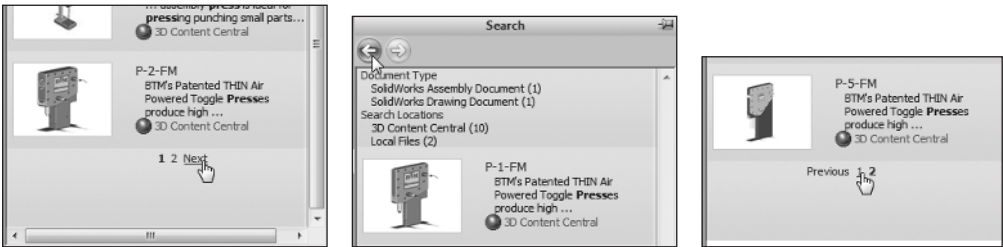

FIGURE 1.11 Scrolling through search results in task pane
4. To move to the next screen, click the blue right-pointing arrow, or click Next at the bottom of the Search tab (see Figure 1.11).